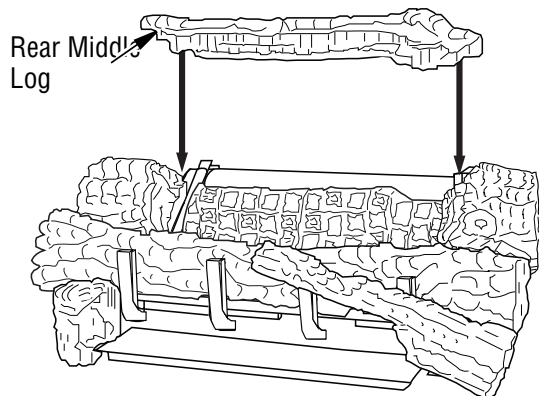

Figure 44 - Installing Rear Middle Log
8. The rear middle log (18" D-068, 24" & 30" D-042) should fit between the ramp log and the rear burner. The left and right middle logs have recessed areas for the rear middle log to sit into (See **Figure 44**). There may be a small gap between the rear middle log and the ramp log, this is normal. Be careful not to push the rear burner out of position while installing this log.